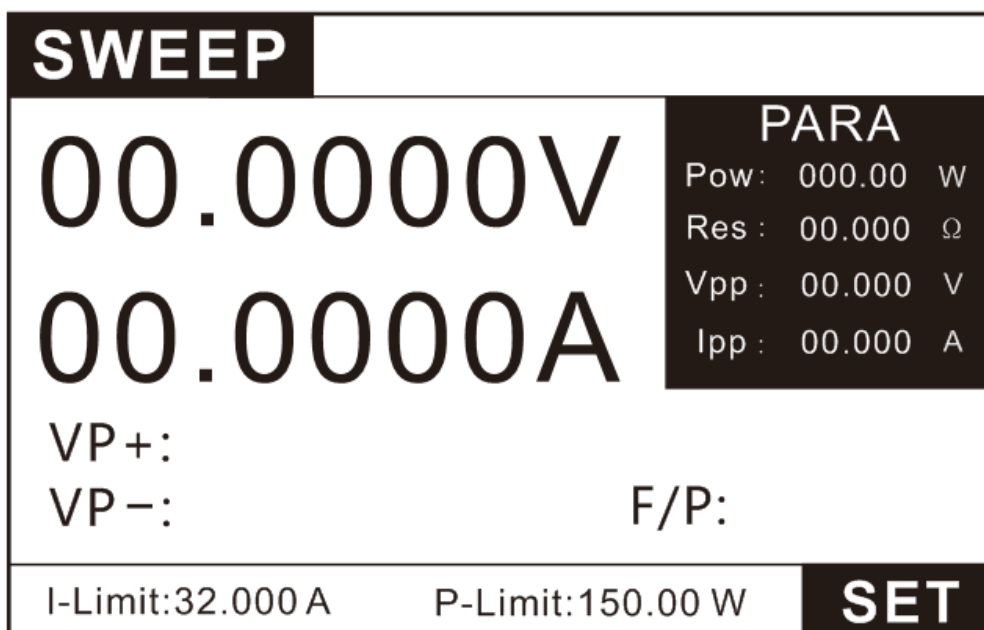

Figure 3.28 SWEEP function testing page
1. Press the key  to enter the mode selection page, press the up and down keys to select SWEEP, and press the key  to enter the SWEEP test interface shown in Figure 3.28.
2. As shown in Figure 3.28, in the SWEEP interface, press the key  to enter the setting interface shown in Figure 3.29.